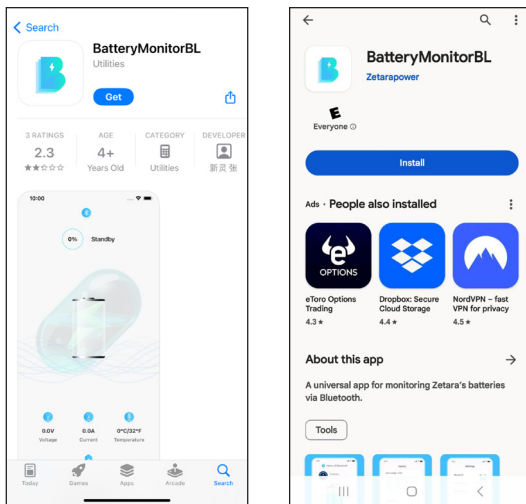

Figure 7: App Store & Play Store Download
1. Search for BatteryMonitorBL in the Apple App Store or in the Google Play Store and download it, as shown in Figure 7.